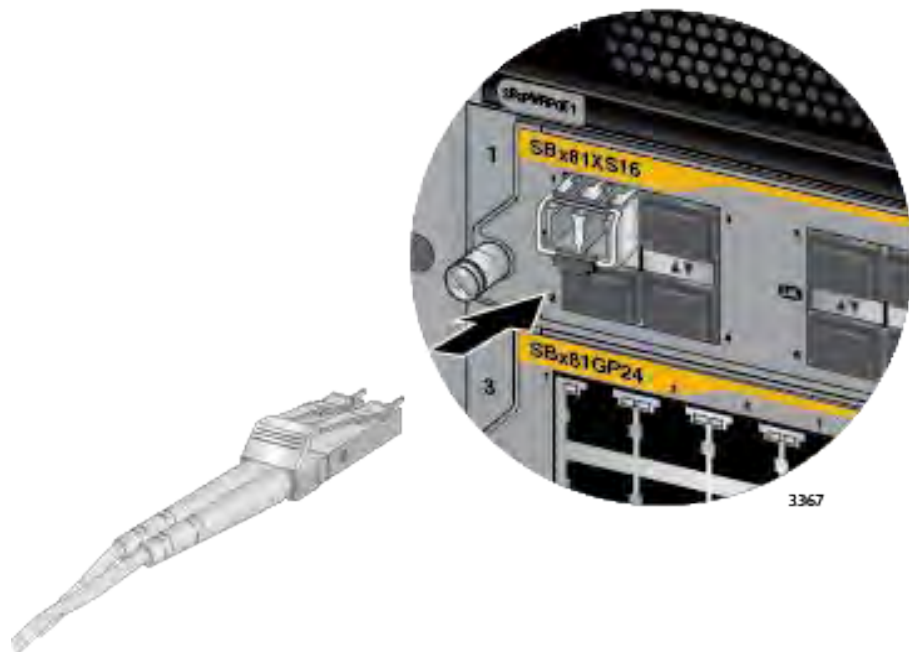

Figure 106. Attaching a Fiber Optic Cable to a Transceiver in the AT-SBx81XS16 Line Card
5. Connect the fiber optic cable to the port on the transceiver, as shown in Figure 106. The connector should snap into the port.